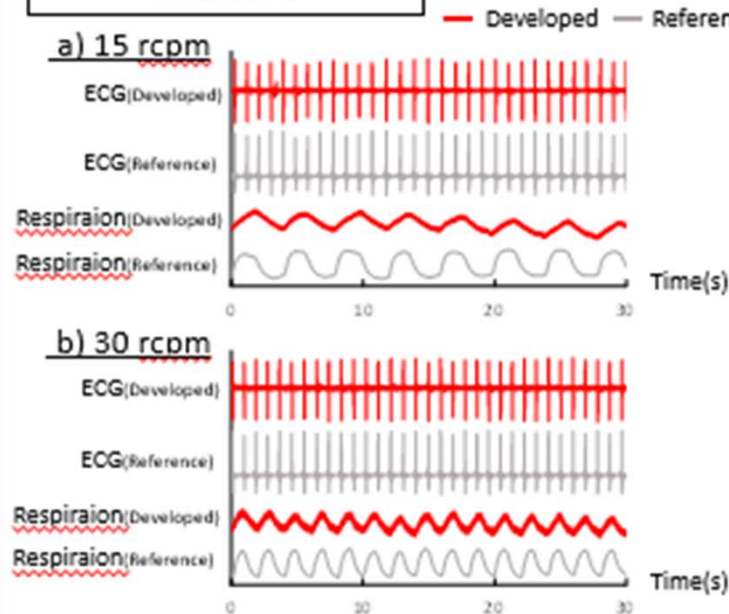

Fig.4 The raw data of two test: a) 15 rcpm and b) 30 rcpm
- The R-peak and theRR were approximately same as both device. -Fig.4